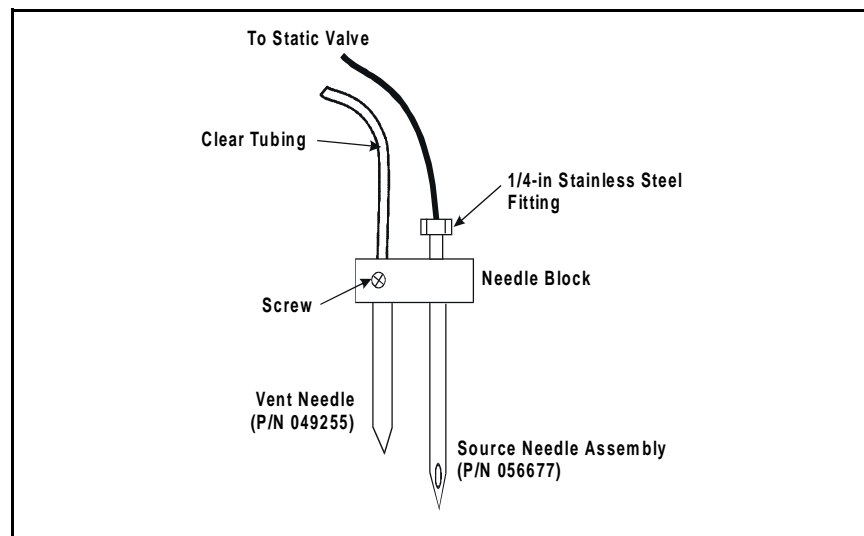

Figure 5-4. Vent and Source Needles
7. The vent needle is the slightly shorter needle with clear tubing attached (see Figure 5-4). Pull the clear tubing from the needle.
8. Use a Phillips screwdriver to loosen the screw on the needle block (see Figure 5-4). Pull down to remove the needle.
8. Swing the needle assembly to the left, toward the back of the instrument. Disconnect the 1/4-inch stainless steel fitting from the needle block (see Figure 5-4) and remove the source needle.